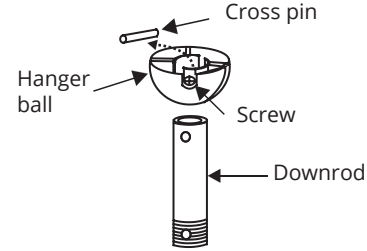

FIGURE 8
1. Take out the screw located in the hanger ball, lower the hanger ball and remove the cross pin. Remove the hanger ball from the hanger ball/downrod assembly. (Fig. 8)